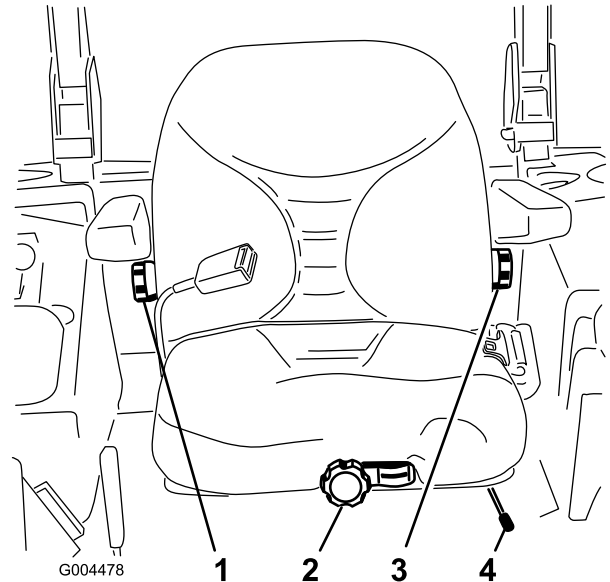

Figure 17
1. To adjust the seat, move the lever sideways to unlock the seat (Figure 17).
Without sitting on the seat, turn the knob in front in either direction to provide the best comfort (Figure 17).
To adjust the back of the seat, turn the knob, located under the right-side armrest, in either direction to provide the best comfort (Figure 17).
To adjust the back of the seat, turn the knob, under the left-side armrest, in either direction to provide the best comfort (Figure 17).